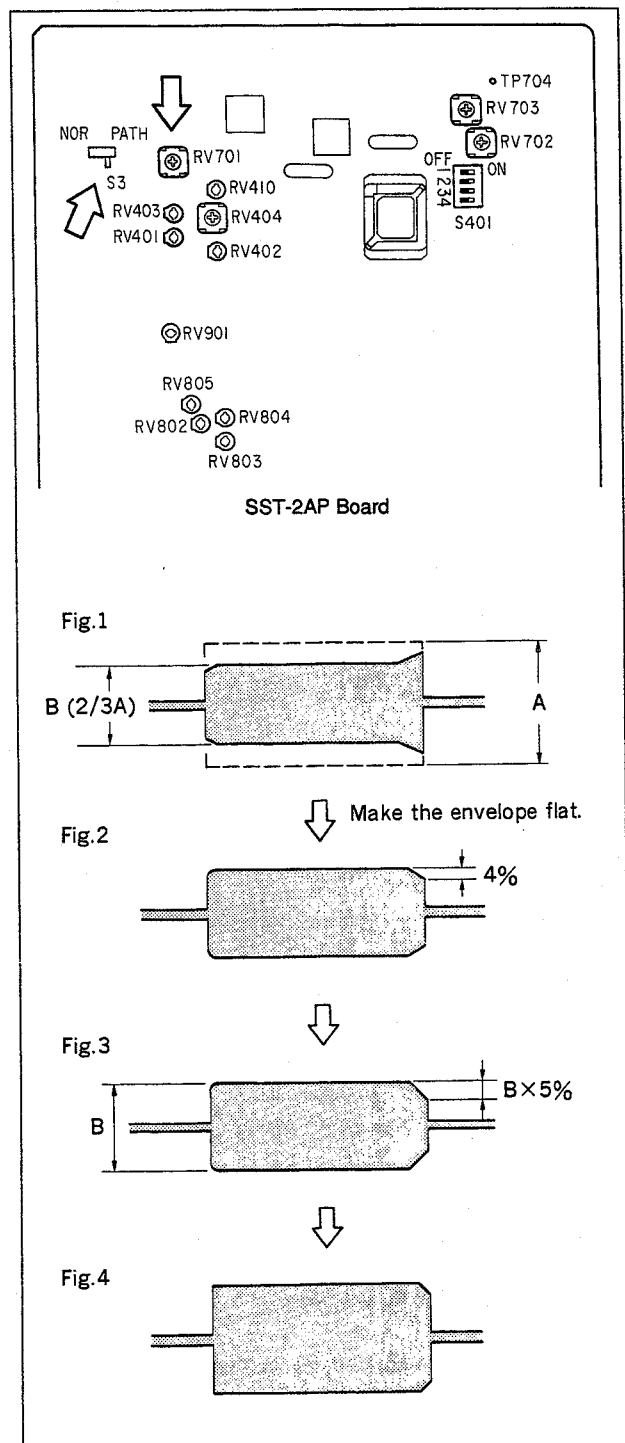

Fig. 6-3-4 Exit side fine adjustment
1. Set S3 switch on SST-2AP board to "PATH", and rotate RV701 counterclockwise to reduce RF wave shape amplitude to 2/3. (See Fig. 6-3-4 (1).)
2. Lower the height of Guide No.5 so that wave shape decreases by 4% from flat wave shape. (See Fig.6-3-4 (2))
3. Lower the height of Guide No.4 so that wave shape decreases by 5% from B wave shape. (See Fig.6-3-4 (3))
4. Adjust control RV701 of SST-2AP board until waveshape has the maximum amplitude. (See Fig.6-3-4 (4))